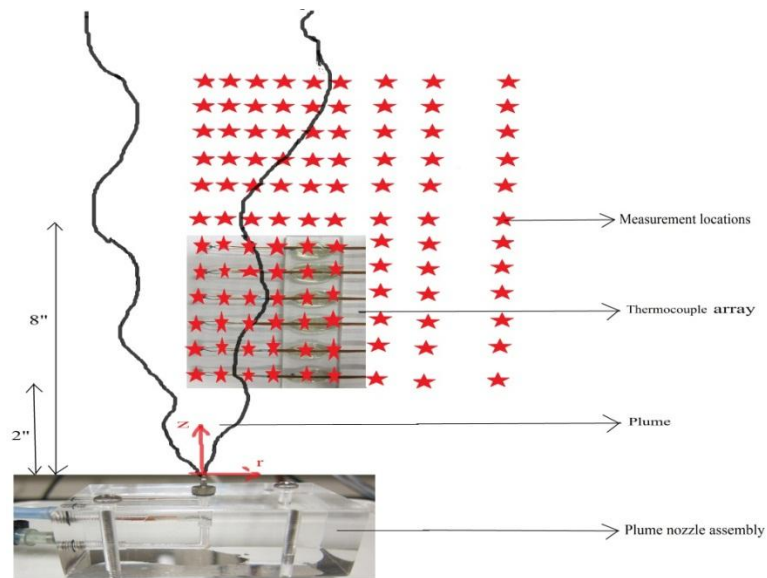

Figure 1. Diagram showing plume experimental setup. Stars indicate points of measurement using the thermocouple array as explained in the text.
The experiment consists of a plume produced by warm water injected at the bottom of a tank of quiescent room-temperature water (Fig. 1). The flow physics of the plume is controlled by the excess buoyancy (temperature excess against the background) and the momentum flux (controlled by a pump) at the plume nozzle exit. Morton length scale ( $L_M$ , Eq. 5) defines the relative strength of momentum and buoyancy fluxes at the nozzle exit, and it dictates the characteristics and structures of the plume. For smaller  $L_M$  the plume is dominated by momentum, known as jet, and its centerline reduced gravity (Eq. 6) decreases linearly with the distance from the nozzle. For higher  $L_M$  the plume is dominated by buoyancy, known as buoyant plume, and its centerline reduced gravity decreases as  $z^{-5/3}$ , where  $z$  is the distance from the nozzle.
- e) **Refer to figure 1.** Start taking measurements with the lowest thermocouple at 2” from the nozzle exit at X position 0.0, 0.1, 0.2, 0.3, 0.4, 0.5, 0.7, 0.9, 1.2 inches. Wait for at least 15 seconds when you move the thermocouple array to a new position before taking measurements. When you click the Read button on the VI the thermocouple array will be scanned at 10 Hz for 2000 samples. The scan will take a little over 3 minutes to complete. When completed you will be prompted to save your data. Enter a filename and save. Use the same file for all measurements; subsequent scans will be appended to the existing file. Following the 1.2” scan, move the thermocouple array up by 6”, so that lowest thermocouple is at 8”. Take measurements at 1.2, 0.9, 0.7, 0.5, 0.4, 0.3, 0.2, 0.1, 0.0 inches.